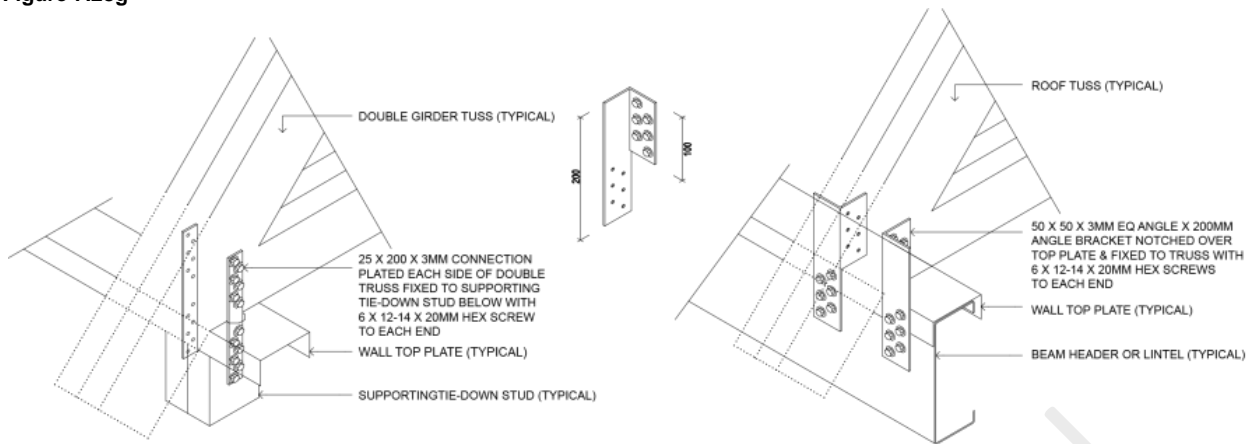
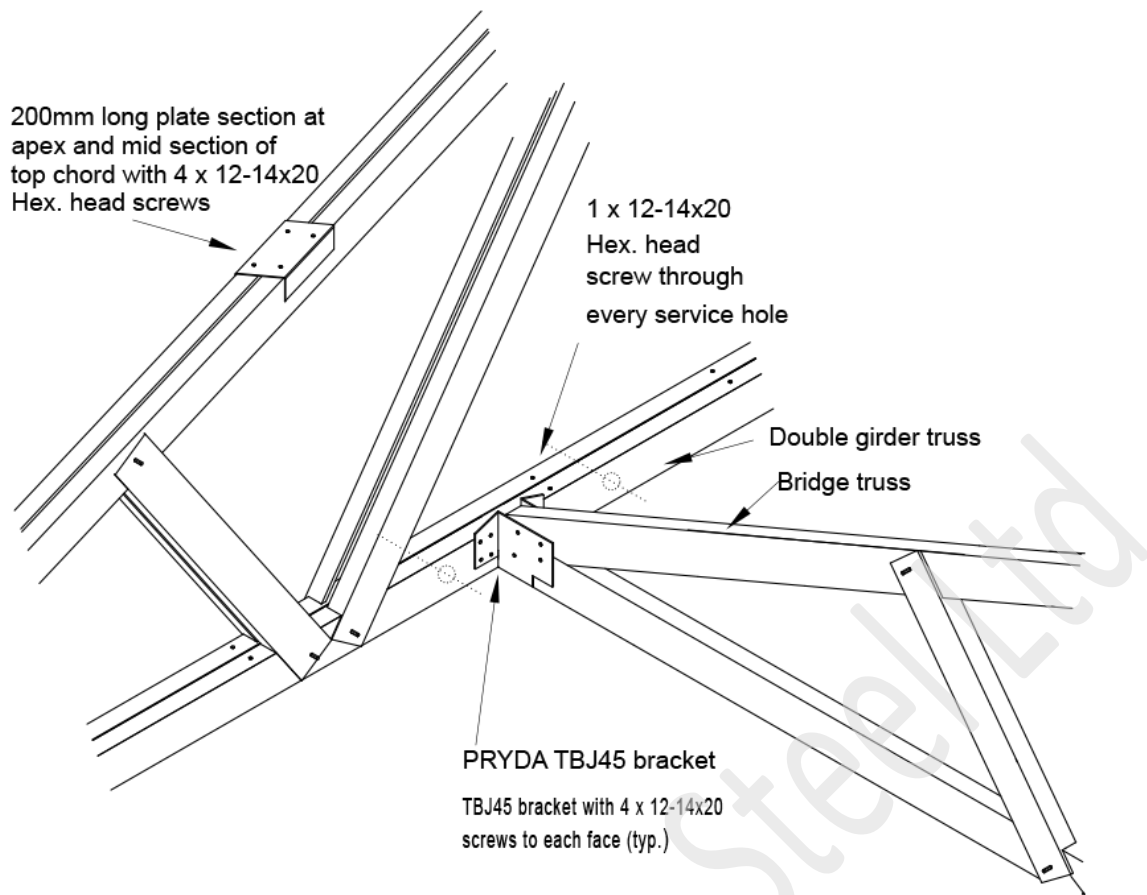

Figure 7.28d Double Girder Truss Hold down with angle and strap tie down option
Figure 7.28f Double Girder Truss Connection
STEP 6: Install the bridge trusses to the external wall and girder truss as shown in Fig. 7.28f.
STEP 7: Install the second ply girder truss (if applicable) with the toes of both trusses facing each other and fix it to the brackets as shown in Fig. 7.28d. Install 1x12-14x20 Hex Head screws through EVERY service hole provided on the bottom chord to connect the two trusses together as shown in Fig. 7.28f. Install 200 long plate sections with 4x12-14x20 hex-head screws to top chord near apex and midspan of top chord.